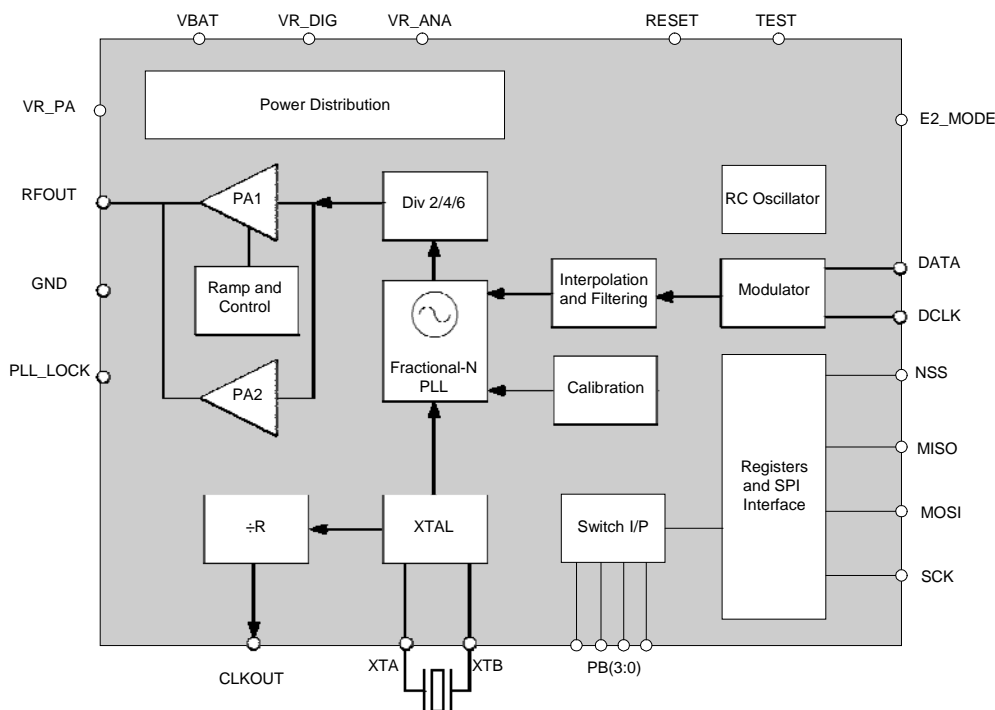

Figure 1. RFM67 Simplified Block Diagram
The general architecture of the RFM67 is shown in Figure 1. The frequency synthesizer generating the LO frequency is a third-order fractional-N sigma-delta PLL. The PLL is capable of fast auto-calibration and offers fast switching and settling times. For frequency modulation ((G)FSK and (G)MSK), the modulation is performed within the PLL bandwidth. Optional pre-filtering of the bit stream may also be enabled to reduce the power delivered to adjacent channels.